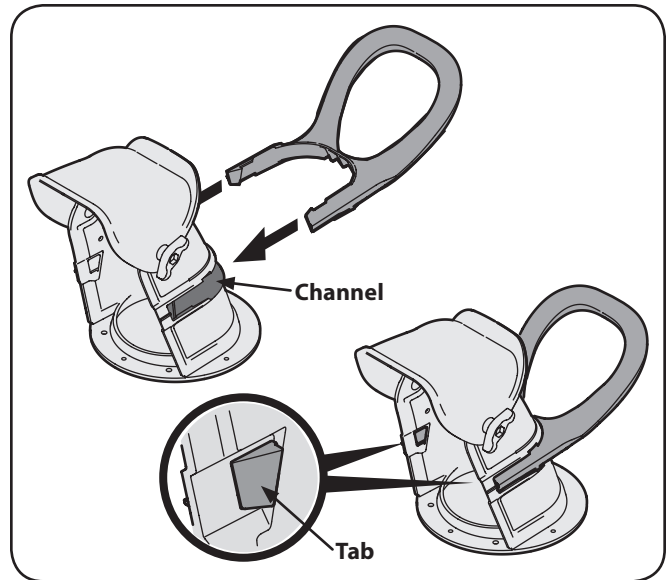

Figure 3-4
1. On the 221 HP model place the chute handle on the lower chute as shown in Figure 3-4. Skip to step 2 for 221 LHP models. Be certain that the handle is aligned in the channel on the chute and the tabs snap into place.